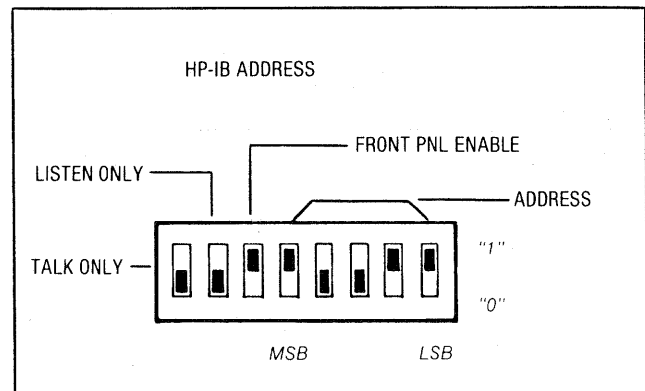

Figure 2-3. HP-IB Address Switch Shown as Set by the Factory
- e. Set the switches to the desired HP-IB address (in binary) and the Talk Only or Listen Only condition. The switch is illustrated in Figure 2-3. If both the Talk Only and the Listen Only switches